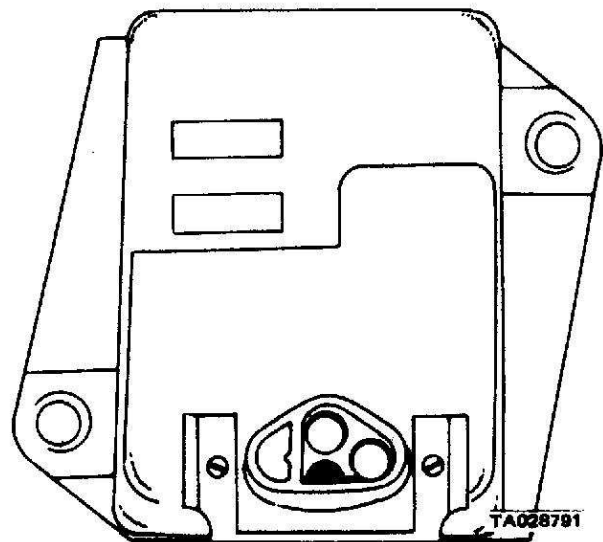

Figure 2-40. Electronic Voltage Regulator.
c. *Electronic Voltage Regulator.* The electronic voltage regulator (figure 2-40) controls the electrical system voltage by limiting the alternator's output voltage. It does this by controlling the amount of current that passes through the alternator's field winding. The regulator is set during manufacture and requires no further adjustment. It is a solid-state, electronic device with no moving parts. One important feature of the electronic voltage regulator is that it varies system voltage up or down, depending on the temperature. This provides the best possible charging conditions for the battery in all kinds of weather and in all seasons.
diagram (figure 2-40), disconnect one at a time, those items feeding off that fuse. When the meter again drops into the acceptable range (0 to 4 volts), you have isolated the short to ground.